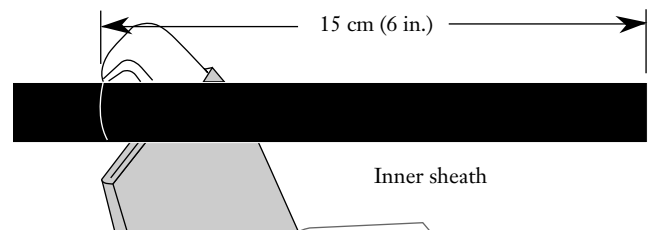

Figure 11
**5.16** Use the hook blade to ring cut the inner sheath 15 cm (6 in) from the end of the cable (Figure 11).